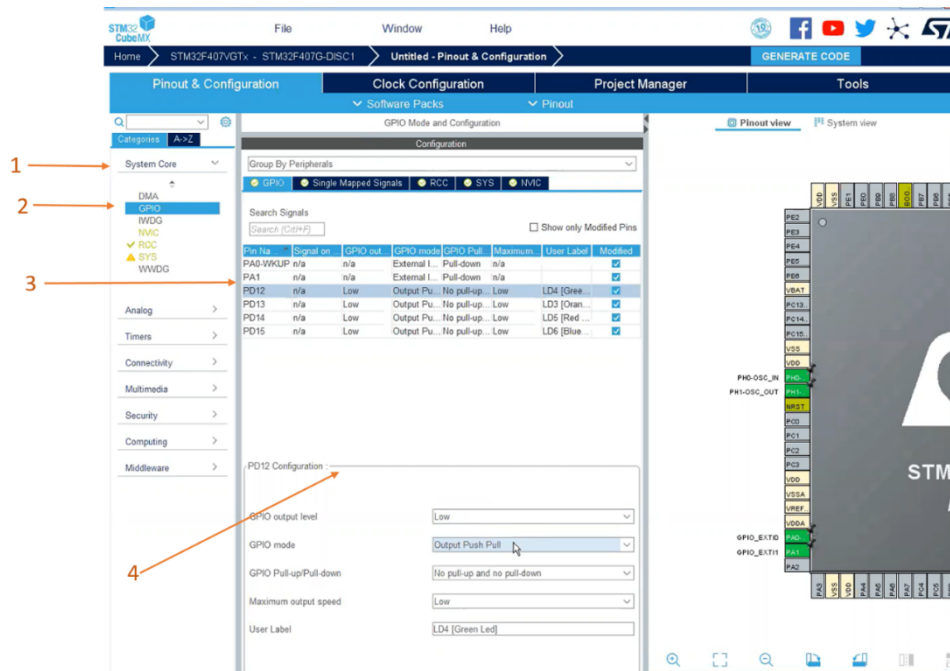

Figure 1
2. Come to the System Core menu. You can change the pin configurations by selecting related pins from here (Figure 1). Select the pull down for PA0&PA1 pins. Select “Output Push Pull” for the GPIO Mode, “Low” for the GPIO output level & Maximum output speed for related pins (PD12- PD13- PD14- PD15).